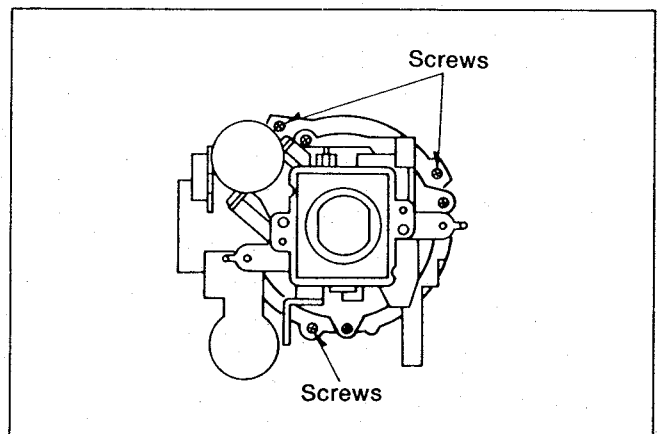
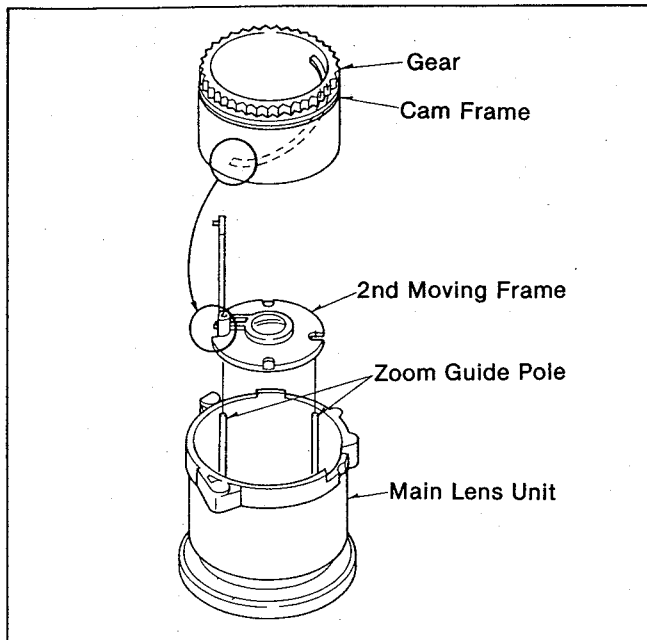

Fig. C2
Fig. C3
- (1). Remove the Camera unit from the S-VHS-C Movie.
- (2). Remove the C.B.A. (Camera Process, Auto Focus, Sensor).
- (3). Loosen 2-Screw and remove the Zoom Motor Unit.
- (4). Loosen 3-Screw and remove the Camera Frame, 2ND Moving Frame (Zoom Lens) and the Zoom Guide pole as shown Fig.C2, Fig.C3.
- (1). At first, Set the Lens unit that surface of look down as shown in Fig. C3.
- (2). Insert the Guide Pole to Main lens Units.
- (3). Insert the 2Nd Moving Frame (Zoom Lens) to Guide.
- (4). Insert the Cam Frame to Main Lens Unit so that the end of ditch on Cam-Frame meet to cutting edge of the 2ND Moving Frame (Zoom Lens). After that fix the pole Guide by finger, and then turn the Gear on the Cam Flame in both direction to confirm the smooth movement of 2ND Moving Frame (Zoom Lens).
- (5). Insert the 3rd unit then tighten the 3-screws.